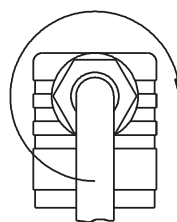
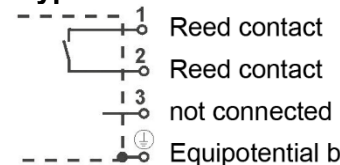

Fig. 5
Fig. 7
- ↪ Connect the wires as shown in the connection diagram below (→ p. 25, Fig. 7)
- ↪ Press the core ⑧ into the cable socket ② until it locks into place.
- ↪ Put the central screw in the cable socket and tighten the screwed cable gland (→ Fig. 5).